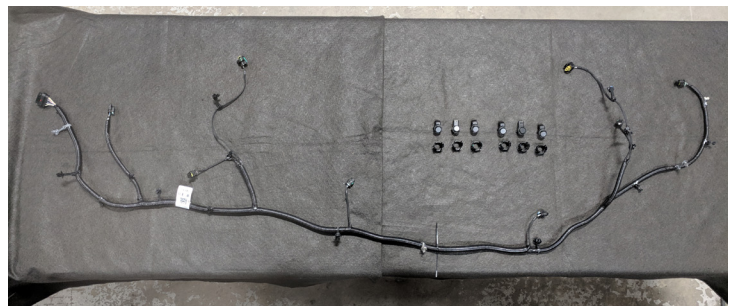

Figure 17
15. Remove the factory wiring harness and set aside. (Figure 17)